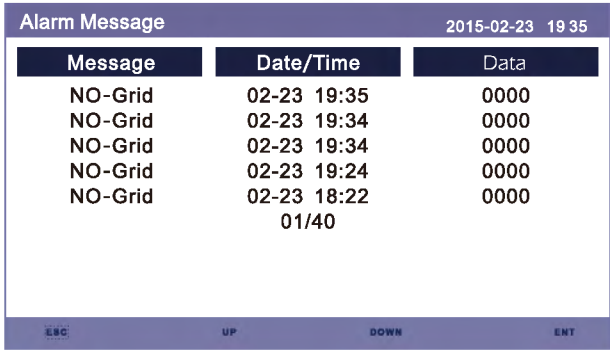

Figure 6.15 Alarm messages
The display shows the last ten (10) or less alarm messages (see Figure 6.15). Screens can be scrolled manually by pressing the UP or DOWN key.